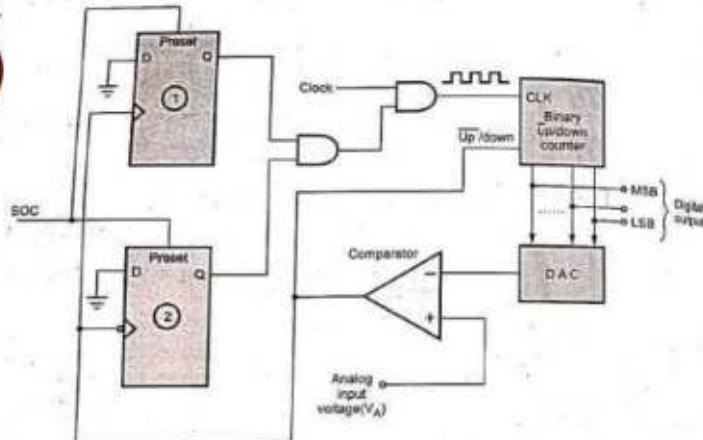

Fig. 6.8.8 Tracking type ADC
- The tracking type converter is also called servo converter or continuous A/D converter. The Fig. 6.8.8 shows the tracking type ADC. It consists of up/down counter, a comparator, DAC and the control circuitry. Here, comparator output controls the direction of count. Counting will be up or down depending on whether the DAC output is below or above  $V_i$  i.e. comparator output is logic 0 or logic 1. Whenever, the DAC output crosses  $V_i$ , the comparator changes state and generates positive going or negative going edge at the output. This edge can be taken as EOC command, so that counter stops counting when comparator changes its state. The edge detection is achieved by using two D flip-flops. Flip-flop 1 is used to detect positive edge whereas flip-flop 2 is used to detect negative edge. Initially, with the activation of start of conversion (SOC) signal the outputs of both flip-flops are set to logic 1. Since, the D input of both the flip-flops is connected to logic 0, upon detection of the edge, the flip-flop output goes to logic 0 and disables the clock. As a result, the counter stops counting. When comparator output goes from logic 1 to logic 0, negative edge is generated and it resets